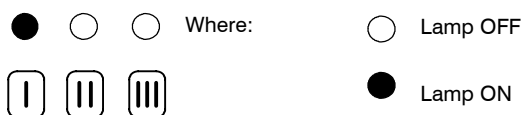

Fig. 13
- 3 The lamps F should give the indication as in Fig. 13 (reignition frequency). If not, press the reset button repeatedly to obtain it.